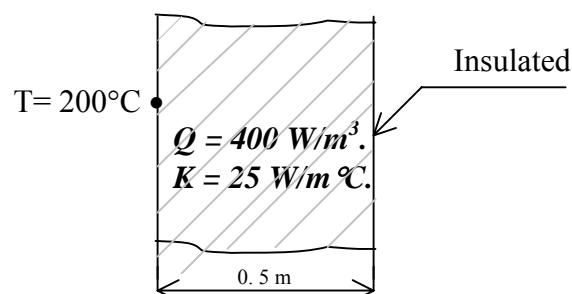

Fig.3. Heat conduction in a slab
**Q3.** The plane wall shown in Figure 3 is 0.5 m thick. The left surface of the wall is maintained at a constant temperature of  $200^\circ\text{C}$ , and the right surface is insulated. The thermal conductivity  $K = 25 \text{ W/m}^\circ\text{C}$  and there is a uniform heat generation inside the wall of  $Q = 400 \text{ W/m}^3$ . Determine the temperature distribution through the wall thickness using linear elements.